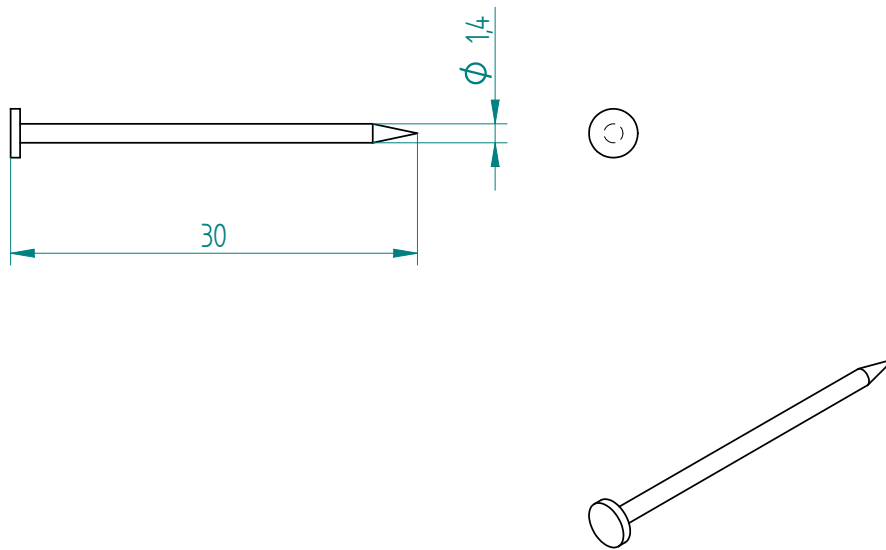

Figure 3.9: Normalized part : **nail** for **perpendicular** tool
**Drawing** See figure 3.9, page 89